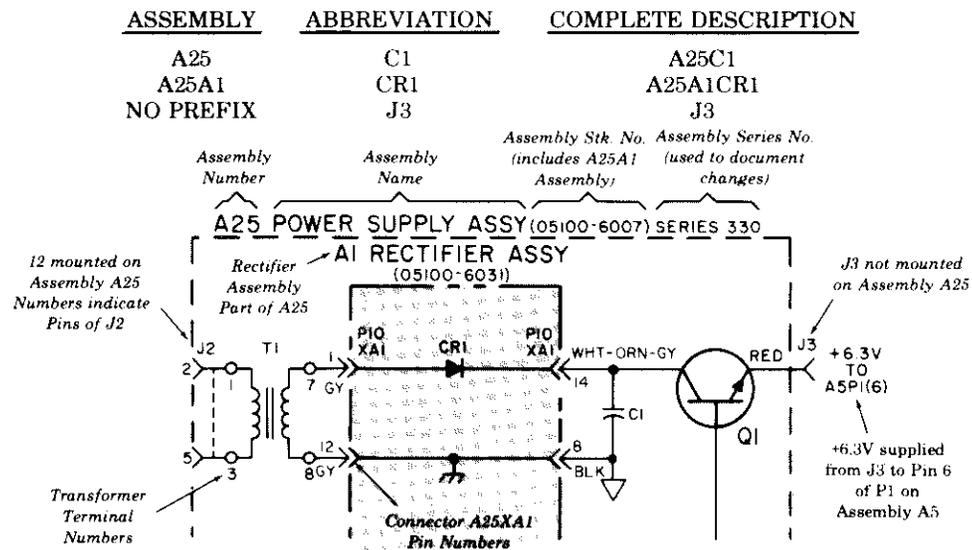

Figure 7-3. Schematic Diagram Notes
*Figure 7-3* shows the various common symbols used on the schematic diagrams. At the bottom of *Figure 7-3*, the identification system for reference designators, assemblies, and subassemblies is shown.
Reference designators are assigned to indicate the class and the location of printed circuit assemblies (boards), subassemblies (if any), and all of the component parts, as shown in the example in *Figure 7-3*. Assemblies are assigned numbers in sequence — A1, A2, etc. Component parts are numbered in sequence, from left to right, top to bottom, according to the physical location on the assembly.
Subassemblies within an assembly are given a subordinate “A” number. For example, the rectifier subassembly A1 of *Figure 7-3* has a complete designation of A25A1. For individual components, the complete designation is determined by adding the assembly number and subassembly number, if any. For example, CR1 would have a complete reference designator of A25A1CR1.